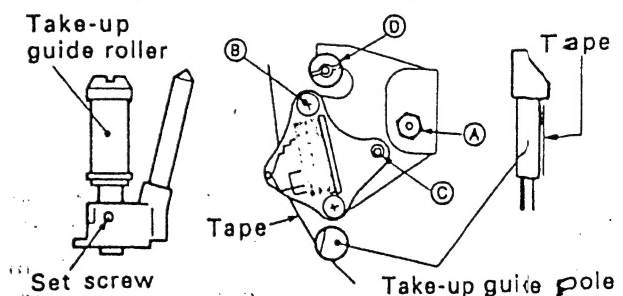

Fig.20 Take-up guide pole
- If the tape separates from the guide or wrinkling occurs at the take-up guide pole, adjust by turning screw © of the Audio/CTL Head as shown in Fig.20.
- If the tape separates from the take-up guide pole or wrinkling occurs, screw ③ (Fig.20) has been turned excessively with respect to nut ① and screw ⑥ causing the Audio/CTL Head to incline forward or backward. Use care to adjust screws ⑥ and ⑦, and nut ① evenly and observe that small wrinkles are not produced at the take-up guide pole.
- g) Loosen tracking adjustment nut ① (Fig.20) and slide the Audio/CTL Head assembly fully to the direction of the take-up guide pole.
- i) Set the Audio/CTL Head assembly to the position where first maximum FM level is obtained. Put screw locking glue on nut ① (Fig.20).